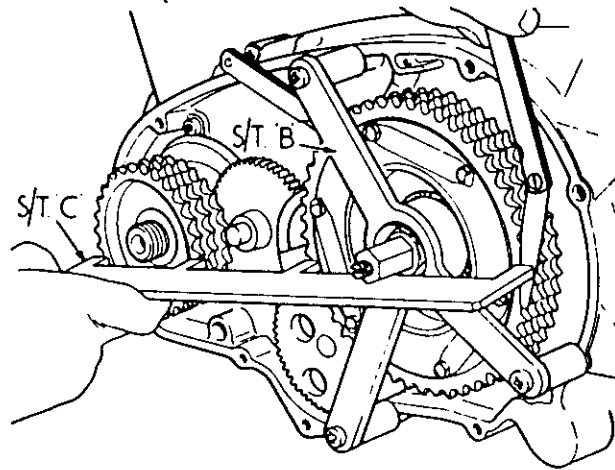

FIG. B92.
Gap between legs of service tool (C) 61-6105 and faces of shock absorber sprocket. Measure gap with feeler gauge to determine value of shims to be removed from behind engine sprocket (see Fig. B92).